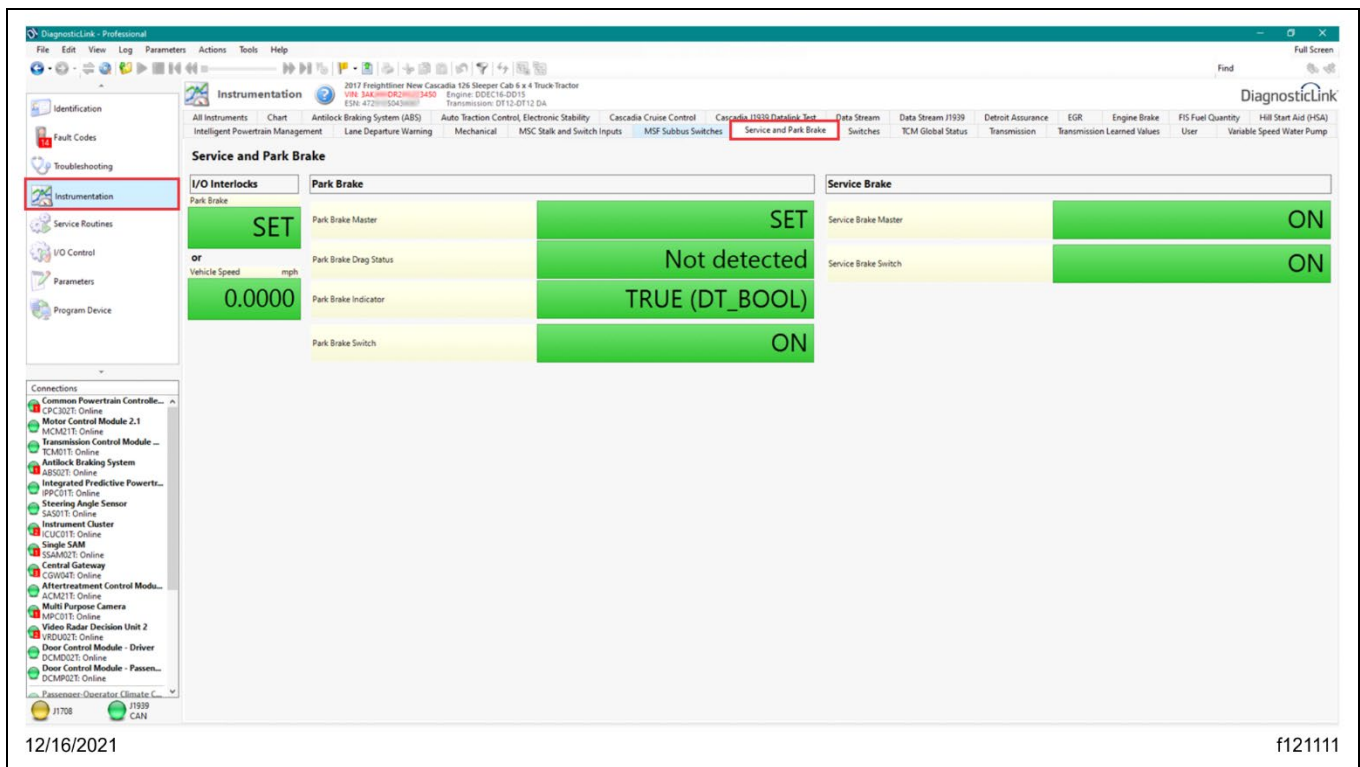
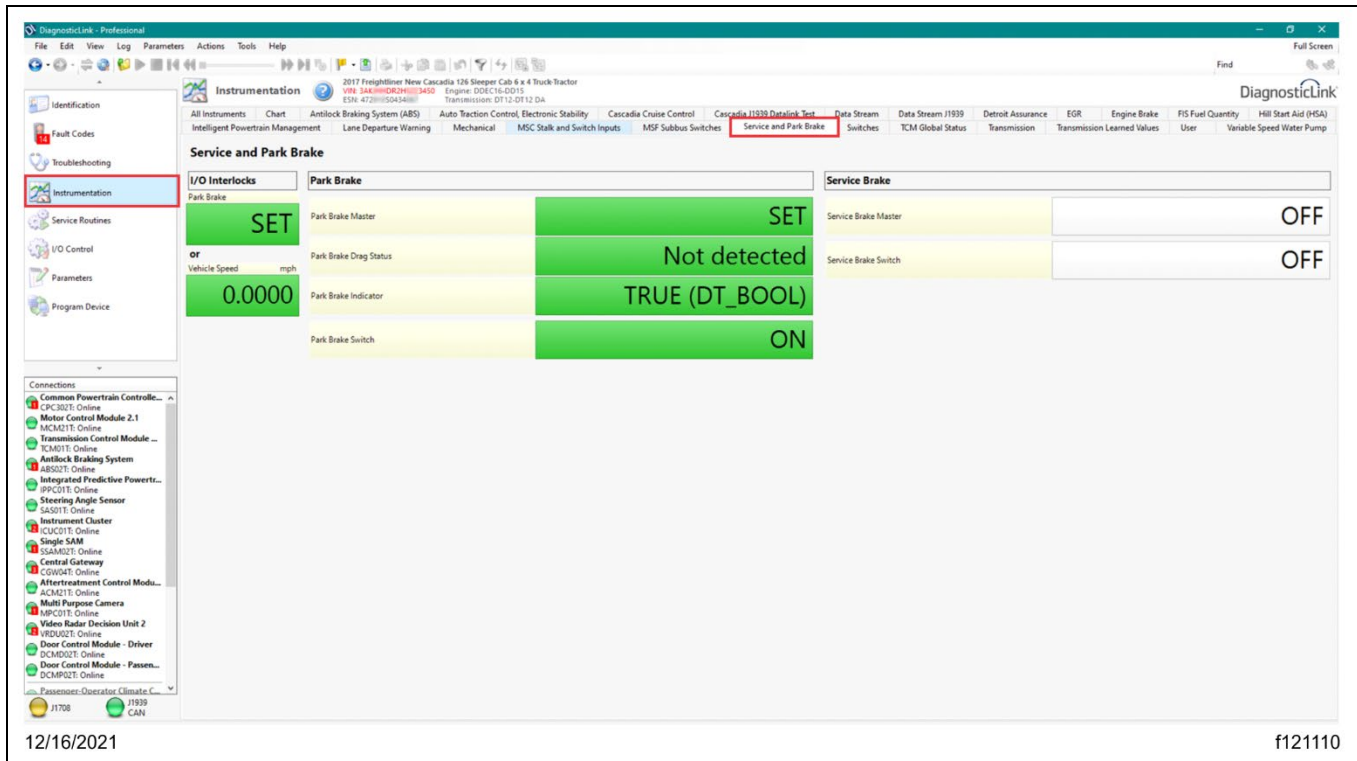

Fig. 25, Service Brake Panel Status When the Brake Pedal is Pressed
Fig. 26, Service and Park Brake Panel Status in Normal State
- Open DiagnosticLink. Go to the 'Instrumentation' tab, then select the 'Service and Park Brake' tab. See Fig. 26.
The 'Service Brake' panel status should show both 'OFF' in normal state when brakes are not applied, as shown in Fig. 26, and show as 'ON' when the brake foot pedal is pressed or if so equipped, when the trailer hand valve is pulled. See Fig. 25. A slight delay between status of 'OFF' and 'ON' is normal.